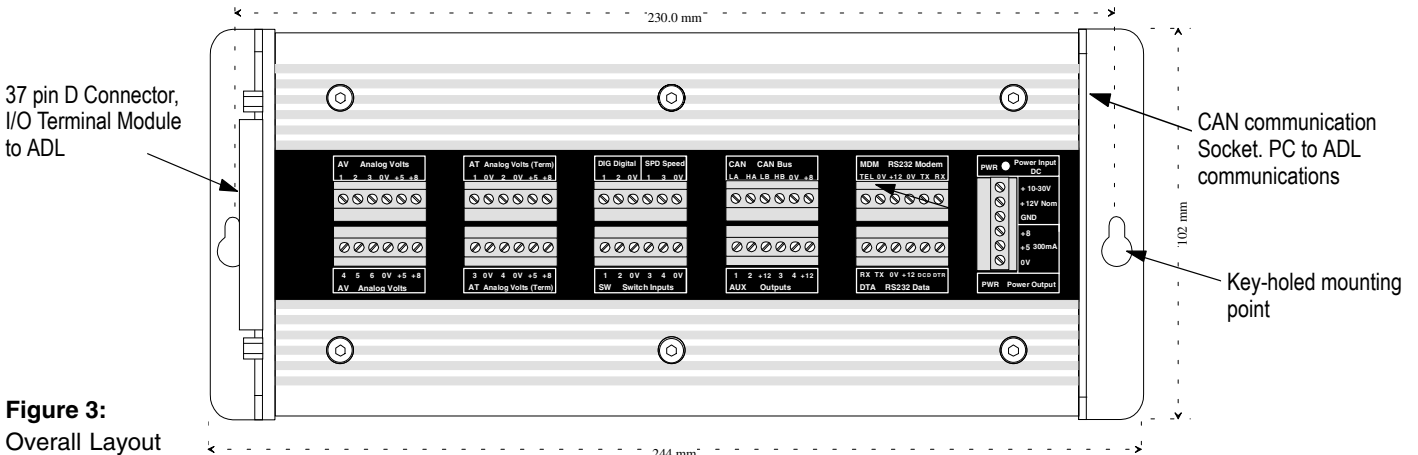

Figure 3: Overall Layout
- For fixed permanent installations use the key-holed mounting points at either end of the I/O Terminal Module (see Figure 3)
- Connect the 37 pin D connector of the Interconnecting cable loom to the I/O Terminal Module and secure screws firmly (see Figure 3)
Connect the CAN Communication cable from the PC to the I/O Terminal Module (see Figure 3).